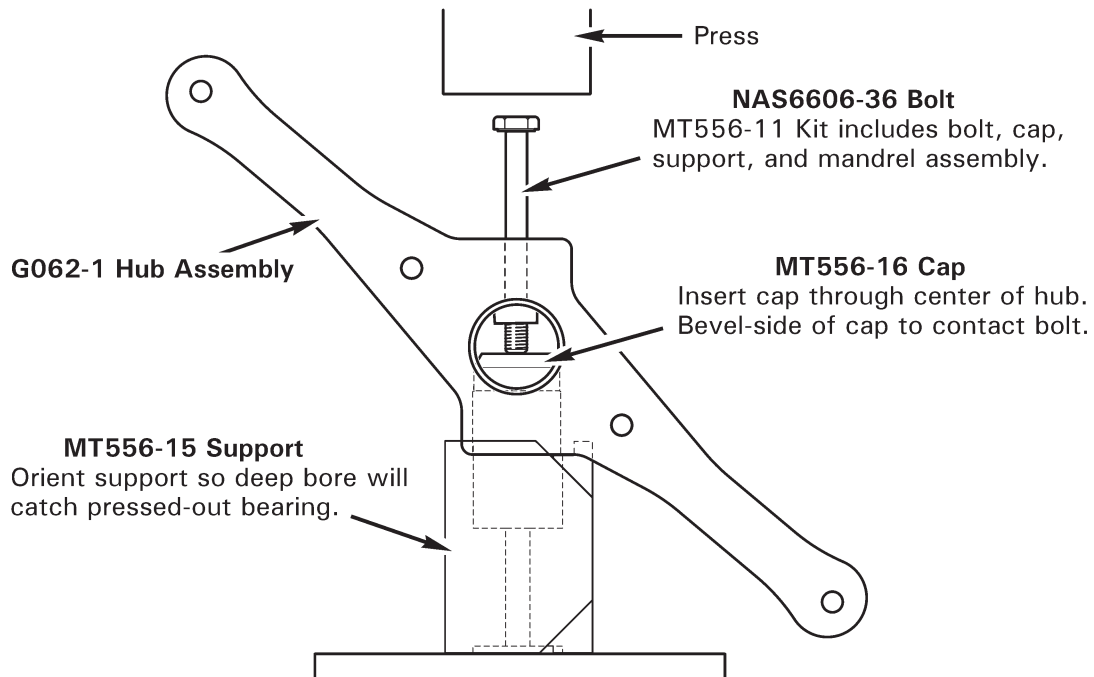

FIGURE 30-8 ELASTOMERIC BEARING REMOVAL
3. Refer to Figure 30-8. Press bearing(s) from hub using MT556-11 bearing removal (and installation) tools.